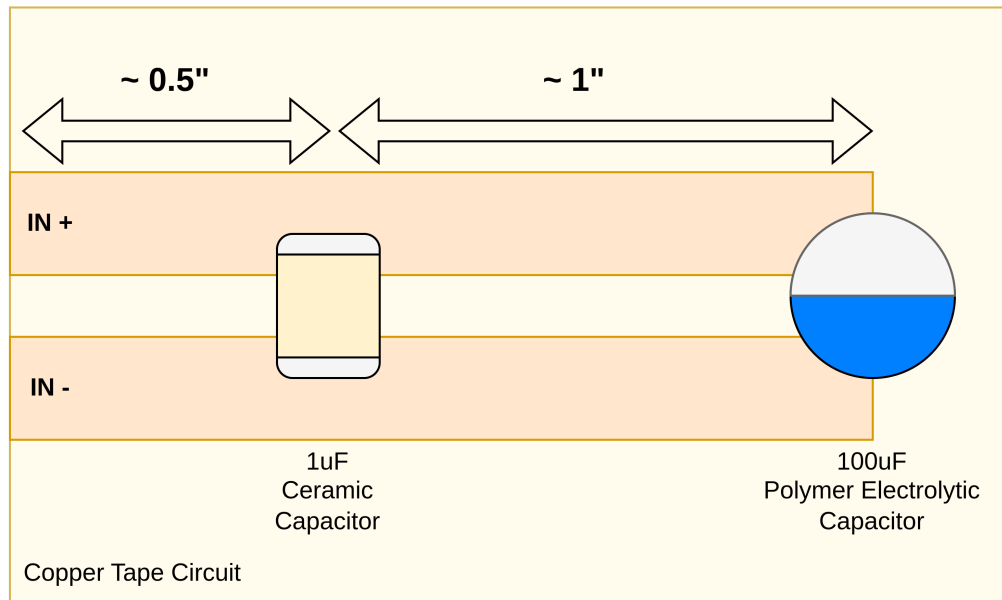

Figure 4.5: Diagram of capacitor network as a copper tape circuit
1. Draw the equivalent circuit diagram of the circuit shown in Figure 4.5, including the inductance of the copper tape traces and capacitor ESL.
2. Construct the copper tape circuit shown in Figure 4.5. Any package size SMD ceramic capacitor can be used. For the polymer electrolytic capacitor use the part you used for the first part of the lab. Measure the impedance of the network with the AD2 from 1kHz to 10MHz and save the plot.